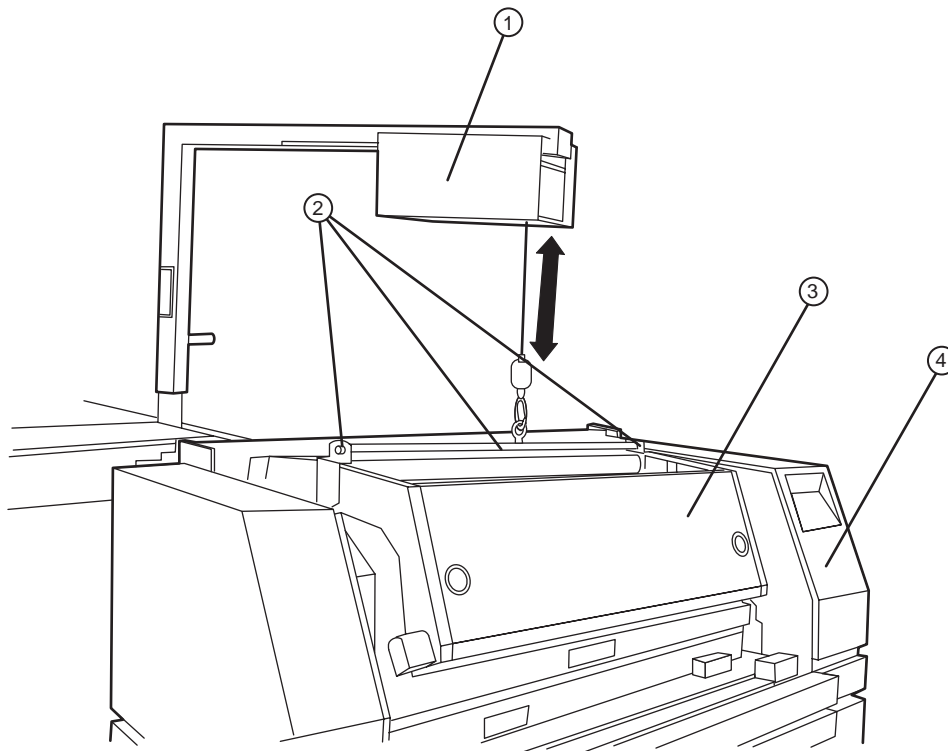

Figure 1-8 Lowering the bridge into the imagesetter.
①—Detent plate/V-groove. ②—Lubricant.
5. With the rear of the bridge tilted downward and the bridge aligned over the mounting bracket holes in the imagesetter, slowly lower the bridge into place. Refer to Figure 1-8.